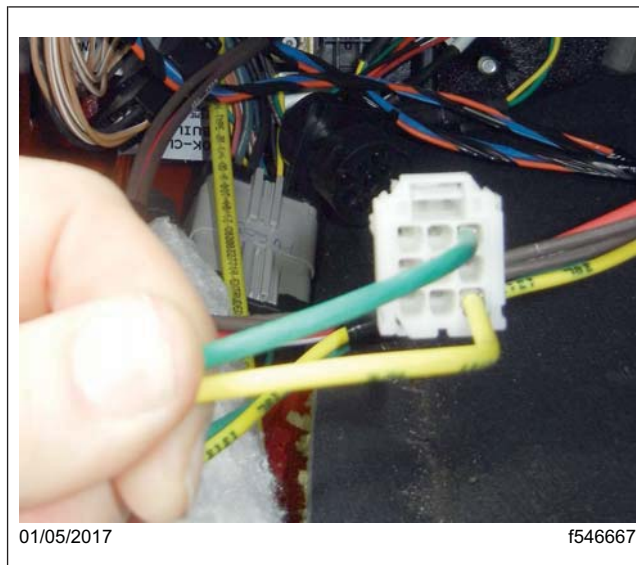
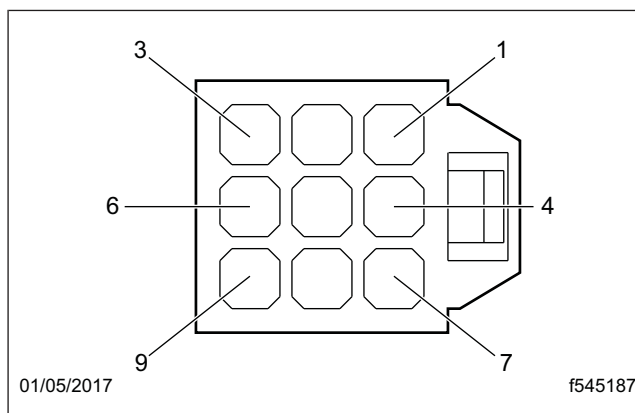

Fig. 6, Wires Inserted into Connector 53B
Fig. 7, 52B and 53B Pinout (view from insertion point)
8. Insert circuits 38R (dark green) and 38L (yellow) from harness A06-93000-000 into cavities 7 and 9 respectively in connector 53B (the part is supplied loose in kit 23-13149-902). See Fig. 6 and Fig. 7.
12. Remove the wire in cavity 6 of connector 52B. Fold the wire back against itself, and cover the terminal with heat shrink tubing. See Fig. 7.
14. Insert circuit 376C (orange) from harness A06-93209-000 into cavity 6 on connector 52B. See Fig. 7.